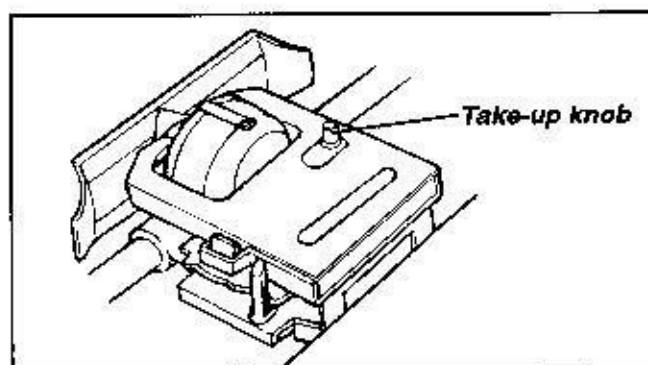

Figure 3-6
4. Turn the knob in the direction of the arrow to take up slack in the ribbon (see Figure 3-6).